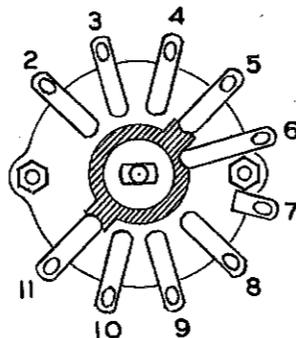

Figure 6. Range switch terminal numbering.
() Connect one lead of a 0.1 μfd plastic tubular condenser to R2 on the range switch (S). Refer to Figure 6 for numbering of contacts on the switch. Any "outside foil" or "ground" markings on paper capacitors can be disregarded. They may be connected with either "polarity."